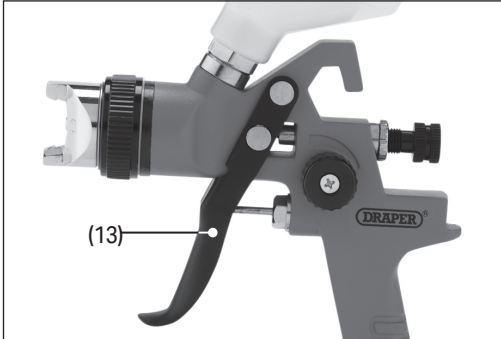

Fig. 14
Paint is released from the spray gun by squeezing the trigger (13) (Fig. 14):